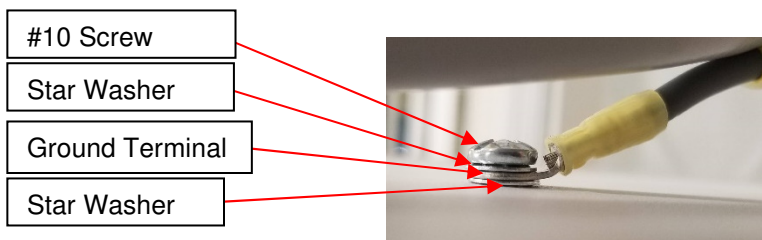
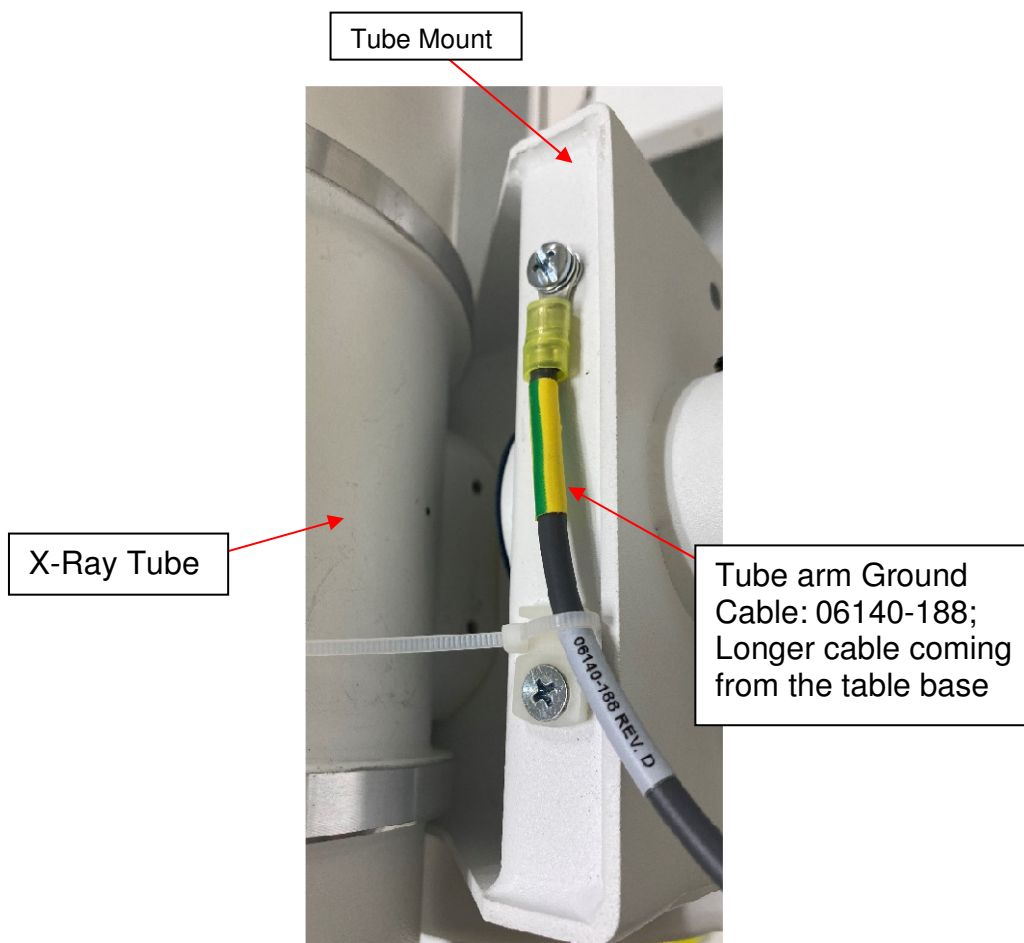

Figure 13: Hardware for mounting ground cables
Figure 14: Tube arm ground cable
3. Make sure ground cables are attached to tube arm, tubestand and film cabinet with hardware shown in figure 13. Figures 14, 15, and 16 show where the cables are attached on the system.